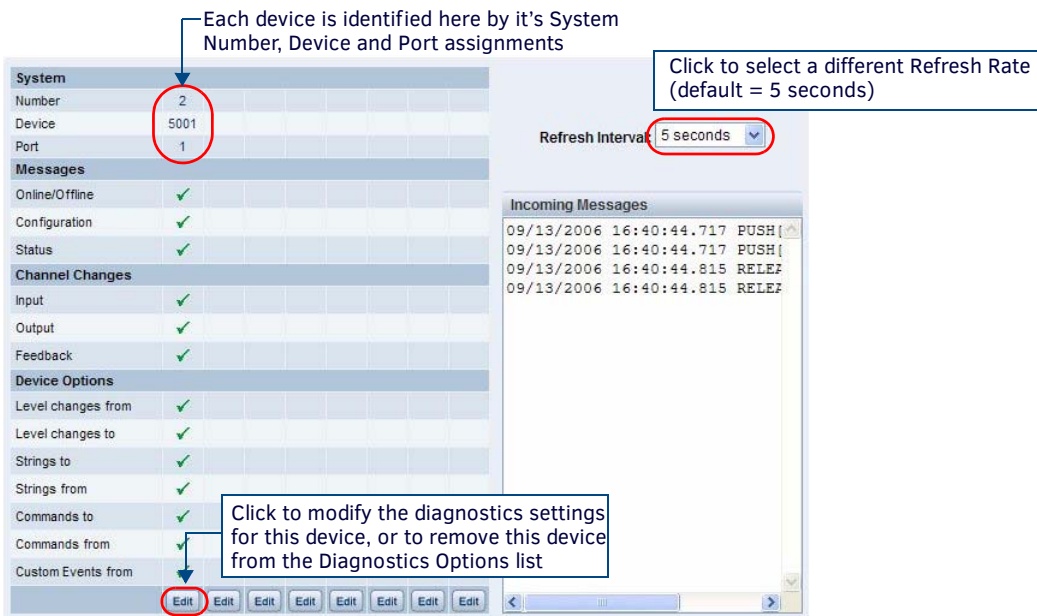

FIG. 53 Edit Options window
- The device that you just enabled diagnostics for appears in the Diagnostics Options page (identified by its Number, Device and Port assignments at the top of the Diagnostics Option list), with the currently enabled diagnostics indicated with a green checkmark (FIG. 53).